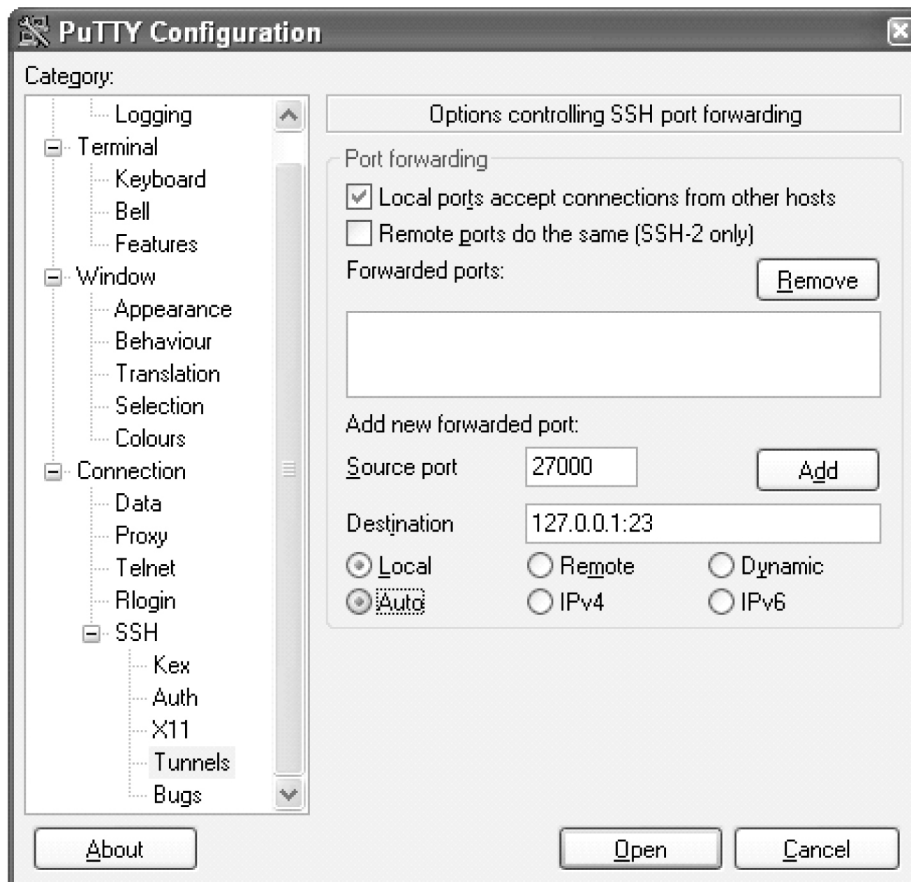

Figure 15: PuTTY Configuration Window - SSH Tunnel/Port Forwarding Setup
Click the **Local ports accept connections from other hosts** check box in the **Port Forwarding** section of the **PuTTY Configuration** window (Figure 15: PuTTY Configuration Window - SSH Tunnel/Port Forwarding Setup), to accept connections from other hosts.
12. In the **Add new forwarded port** section of the **PuTTY Configuration** window (Figure 15: PuTTY Configuration Window - SSH Tunnel/Port Forwarding Setup), click the **Local** radio button.
13. The **Destination** box in the **Add new forwarded port** section of the **PuTTY Configuration** window (Figure 15: PuTTY Configuration Window - SSH Tunnel/Port Forwarding Setup) contains the IP address and port of the remote machine.